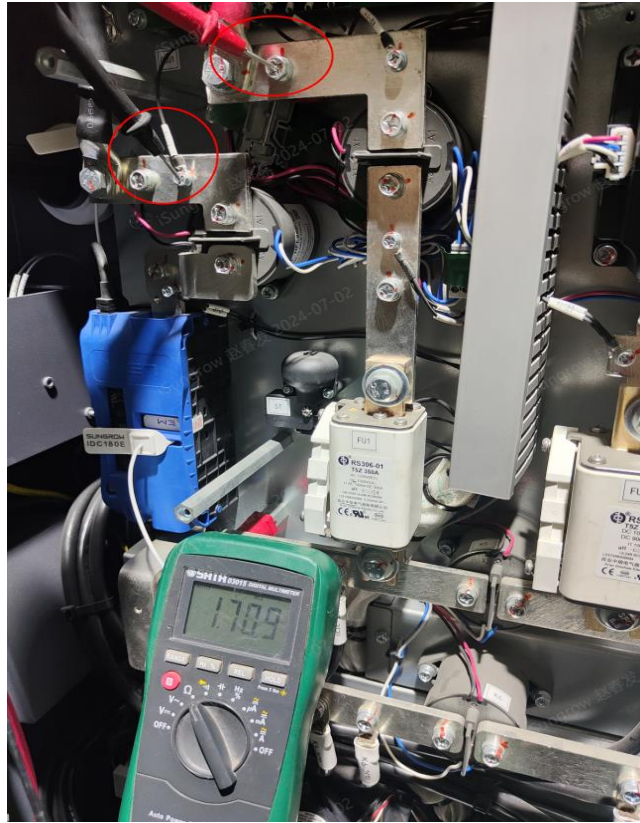

Figure 8-3
1) Measure the resistance between any positive and negative poles with the Ω range of the multimeter. If the resistance value is greater than $1M\Omega$, it is normal. If it is lower than $1M\Omega$, it means that there is a short circuit between the positive and negative poles of the wire, as shown in Figure 8-3.